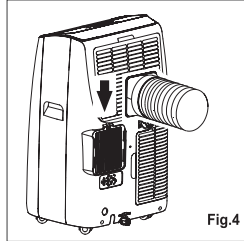

Fig.4
3. Install the hose inlet into the unit (Fig. 4).